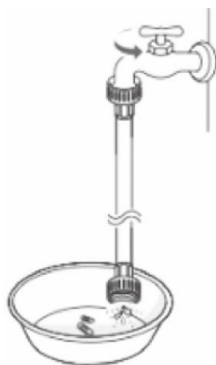

Fig. 7
3. After connecting the water supply hose to the water tap, open it to wash out foreign substances (dirt, sand or sawdust) from the water lines with a jet of water. Drain the water into the bucket and check the water temperature. (see fig. 7)